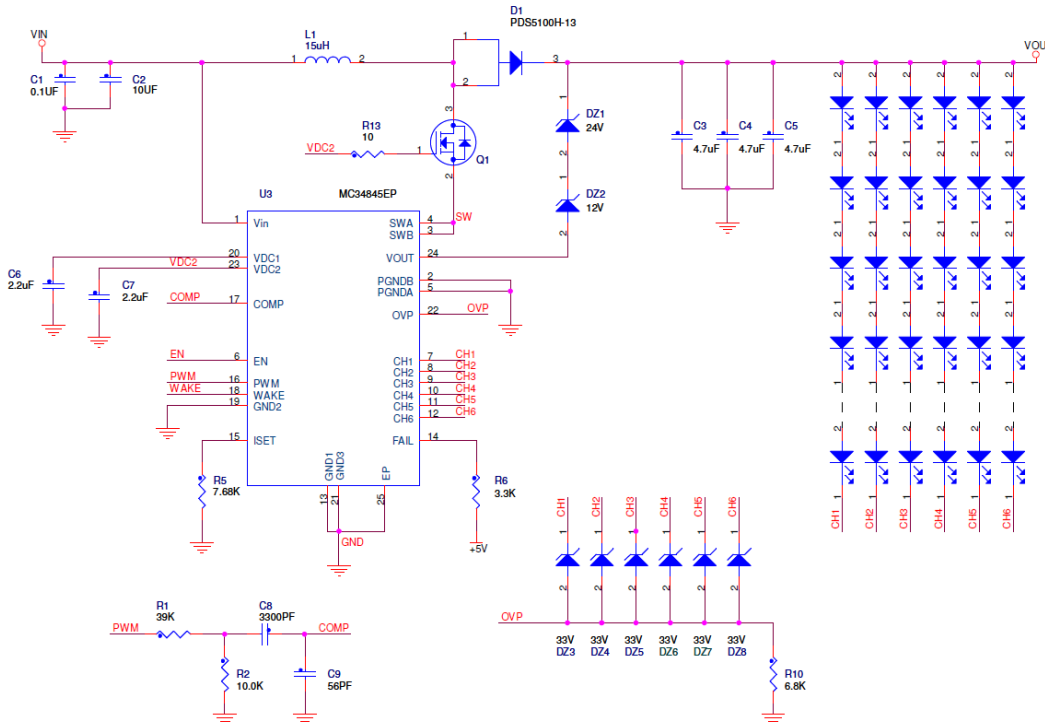

Figure 3. I Application Circuit
Similarly, the boost output voltage feedback pin, **VOUT**, is limited to a maximum voltage of 65 V. A higher voltage at this pin will cause the boost converter section to be off at all times. In order to get more than 60 V and fake a normal performance in the feedback pin, it is necessary to add zener diodes between the output voltage of the boost converter and the **VOUT** pin, so that the device “believes” is working well below the maximum rating. The clamping voltage rate of the zeners will depend on the maximum over-voltage protection level expected, so that  $V_{OUT\_MAX} + 5.0\text{ V} - V_{ZENER(S)}$  is lower than the maximum voltage at the **VOUT** pin. Besides, this modification to the application circuit also enables the use of the internal OVP feature as the **VOUT** pin internally works as the triggering variable for the 60V protection. As a result, the resistor divider previously used at the OVP pin will be no longer necessary as shown in Figure 3.
- b) Maximum off state voltage, VMAX .- During the off times of the PWM dimming, if the voltage drop across the LED driver channel is higher than 45V, the device will probably get damaged. A wise approach to get full protection to each of the LED drivers as well as the DC/DC converter could be use the external OVP feature to shutdown the part if any string during the off time goes above 40V. Consider placing a 33V or so Zener from the bottom of each string to a common resistor pull-down. The junction is tied to the OVP pin. Then if the off time voltage goes  $33\text{V} + 6.9\text{V} = 40\text{V}$ , the external OVP feature will force the DC/DC converter to stop boosting. As a result, it is possible to get full protection this way: external OVP for LED off time voltage at the LED drivers and internal OVP for output voltage of the DC/DC converter. This implementation is shown in Figure 3.
7. The off state leakage current per channel is 1.0  $\mu$ A. In order to keep the voltage across each of the LED driver channels well below  $V_{MAX}$  during the off times of the PWM dimming, it is recommended to check the minimum voltage drop of the LEDs used, when the forward current is approximately 1.0  $\mu$ A. For this reason, the external OVP protection configuration in Figure 3 for each of the LED driver channels is proposed.